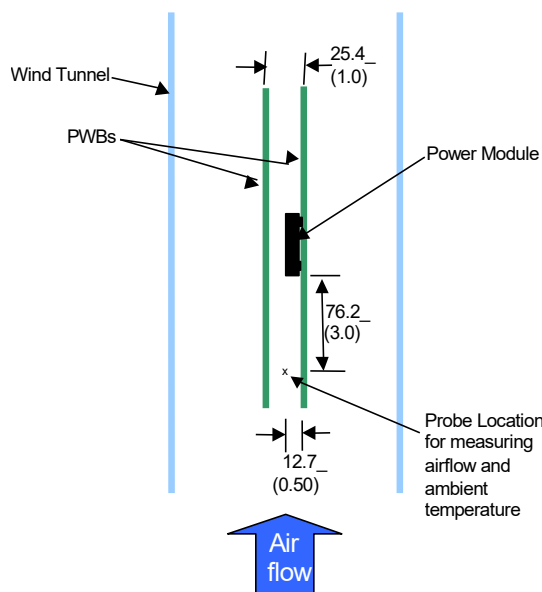
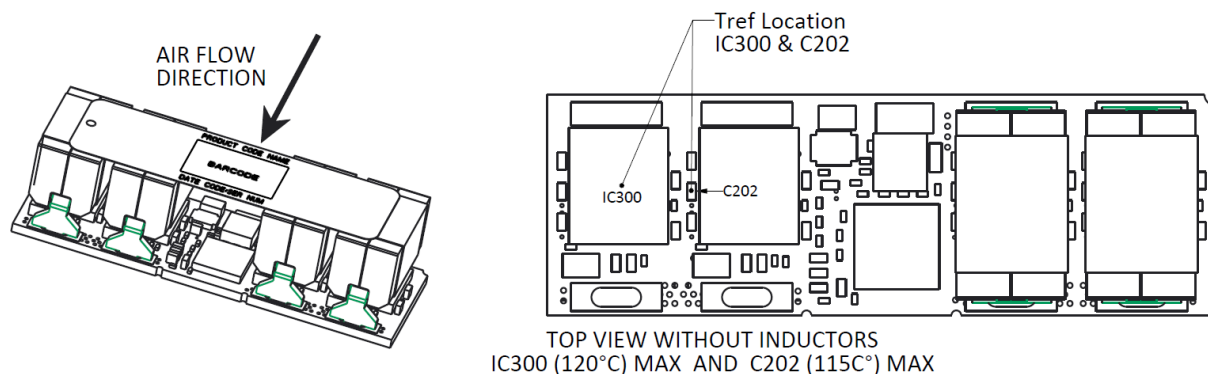

Figure 28. Thermal Test Setup.
Figure 29. Preferred airflow direction and the location of the thermal reference points
Power modules operate in a variety of thermal environments; however, sufficient cooling should always be provided to help ensure reliable operation. Considerations include ambient temperature, airflow, module power dissipation, and the need for increased reliability. A reduction in the operating temperature of the module will result in an increase in reliability. The thermal data presented here is based on physical measurements taken in a wind tunnel. The test set-up is shown in Figure 28. The preferred airflow direction for cooling the module and the thermal reference points, Tref used in the specifications are shown in Figure 29. For reliable operation the temperatures at these points should not exceed 120°C (IC300) and 115°C (C202). The output power of the module should not exceed the rated power of the module ($V_{o,set} \times I_{o,max}$). Please refer to the Application Note “Thermal Characterization Process for Open-Frame Board-Mounted Power Modules” for a detailed discussion of thermal aspects including maximum device temperatures. Increased airflow over the module enhances the heat transfer via convection. The thermal derating of figures 2, 8, 14 and 20 show the maximum output current that can be delivered by each module in the indicated orientation without exceeding the maximum Tref temperature versus local ambient temperature (TA) for several air flow conditions. The thermal derating curves were generated using a 12 layer evaluation board with 3oz copper in inner layers and 2 oz in outer layers.